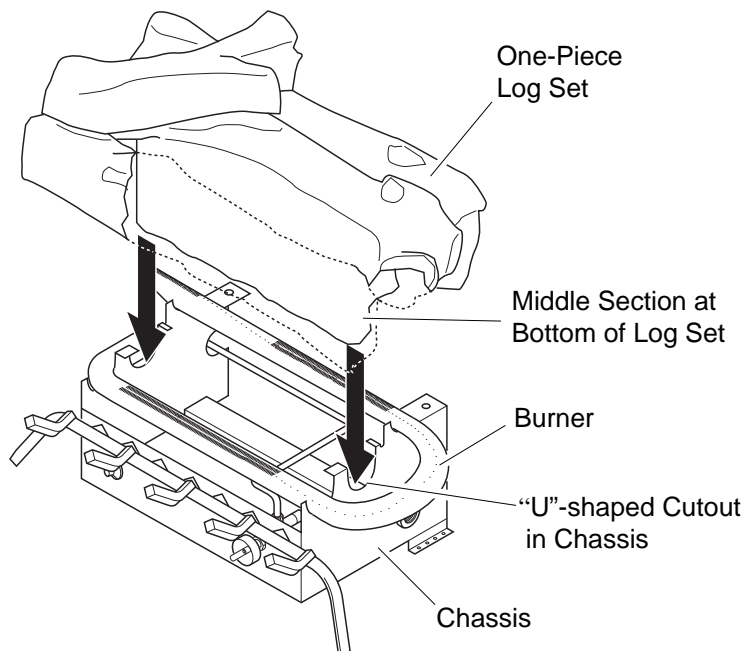

Figure 20 - Installing Golden Oak or Birch One-Piece Log Set
1. Place one-piece log set on grate to fit as illustrated in Figure 20. Make sure middle section at bottom of log set is seated into “U”-shaped cutout in center of chassis (see Figure 20). Log will fit securely on chassis. **IMPORTANT:** Make sure log does not cover any burner parts.